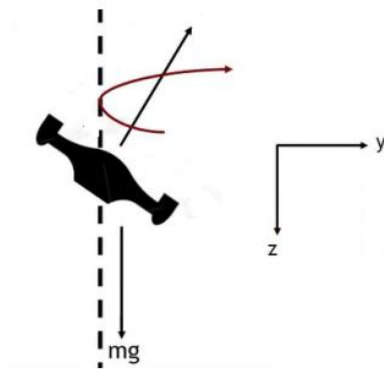

Figure Q2 Two-dimensional drone platform model illustrating rotation and vertical motion
A two-dimensional drone platform is shown schematically in **Figure Q2**. The platform represents a simplified model of a quadrotor aircraft constrained to move and rotate in the y - z plane. The drone consists of a 600 mm frame weighing 500 g, fitted with four motors (each of mass 20 g) and four propellers (each weighing 7 g). The drone experiences gravitational force (mg) acting in the z -direction and is subject to aerodynamic thrust forces and moments generated by its motors. The system is influenced by two control inputs: A net thrust force (F) acting along the z -axis, and A pitching moment (M) acting about the drone's centre of mass. Assume the acceleration due to gravity, $g=9.81 \text{ m/s}^2$. Additional parameters may be assumed where necessary for model development.